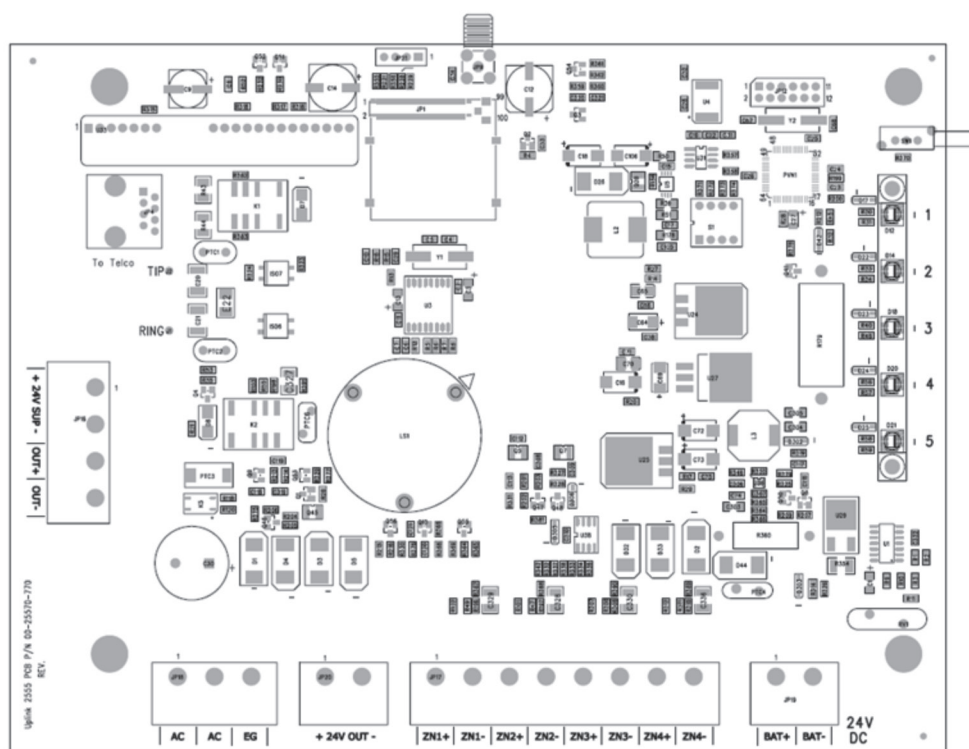

Figure 1: Parts on the 4555 PC Board
1. Open the enclosure's door. Locate the four (4) mounting holes. Use the enclosure as a template to mark where to drill holes for the screws and anchors that will hold the enclosure in place on the wall.
3. Go to the red, 4-position Dipswitch as shown in Figure 1 and set the dipswitch as appropriate for this installation.